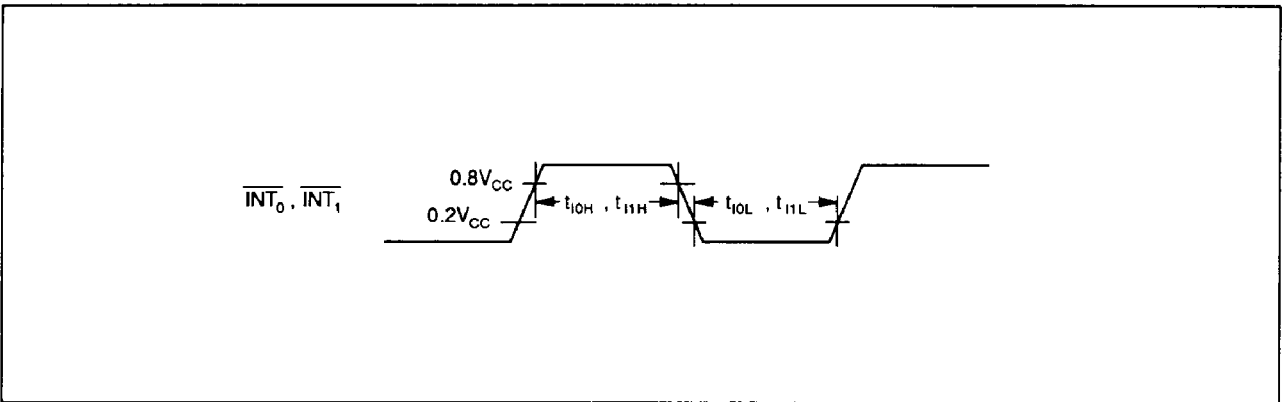

Figure 49 Interrupt Timing
4. See figure 49. The unit t_{cyc} is applied when the MCU is in standby mode or active mode.
6. See figure 49. The unit t_{SUBcyc} is applied when the MCU is in watch mode or subactive mode. $t_{SUBcyc} = 244.14 \mu s$ (when a 32.768-kHz crystal oscillator is used.)